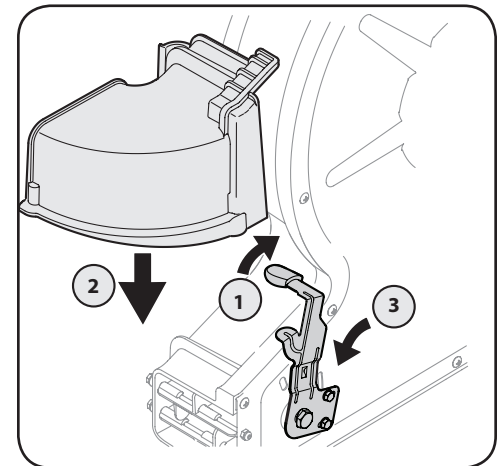

Figure 3-4
1. Pivot the blower direction lever all the way to the right, into the highest position. See (1) in Figure 3-4.
2. Slide the chute attachment downward, over the opening. See 2 in Figure 3-4.
3. Pivot the direction lever to the middle position to lock the chute attachment in place. See 3 in Figure 3-4.